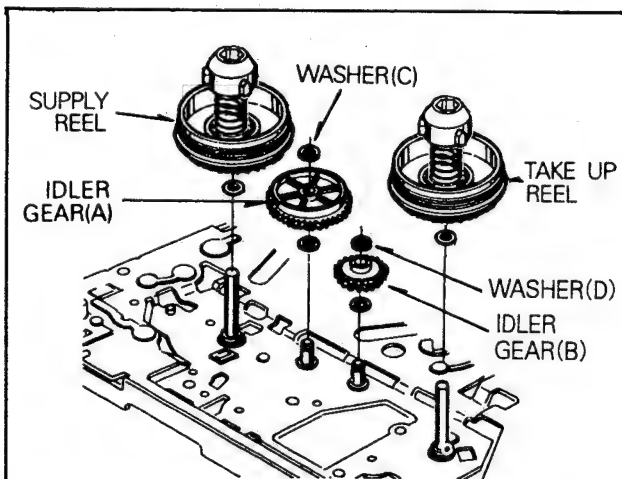

Fig. B-16 Supply Reel Assembly/Take-Up Reel Assembly
## 16. Supply Reel Assembly(Fig. B-16)
## 17. Take Up Reel Assembly(Fig. B-16)
## 18. Idler Gear(A), (B)(Fig. B-16)